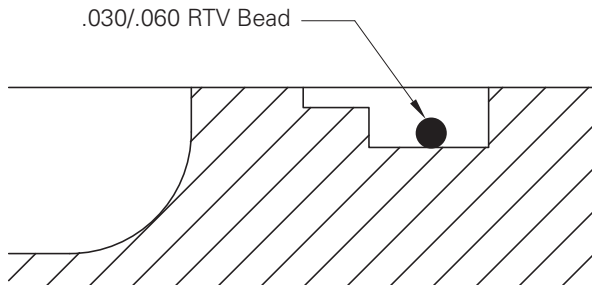

Figure 12
- 4.5.6.3 The 48WCSB tensioner / brake assembly incorporates a dual groove for both the Loctite Superflex® #596 Sealant and an O-ring. An initial bead of sealant 0.030" - 0.060" (0,7 mm - 1,5 mm) in size must be applied to the bottom of the deep groove in order to hold the O-ring in place. See Figure 12.